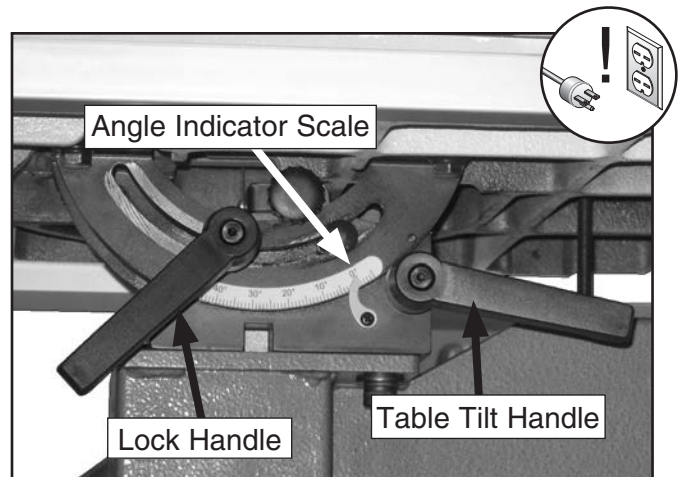

Figure 32. Table tilt controls.
2. Loosen the lock handle on the table trunnion shown in **Figure 32**.